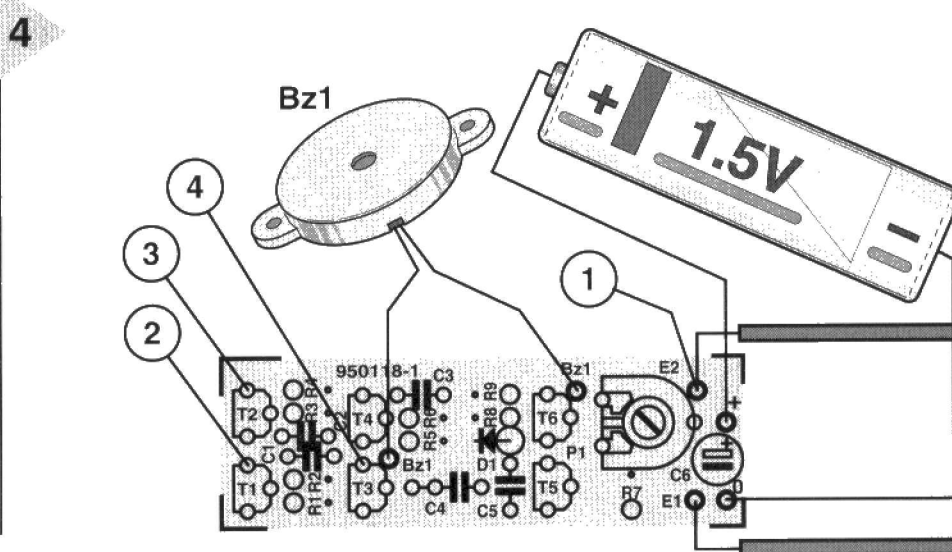

Fig. 4. Various test points on the pcb. See text for values at these points.
Insert an HP7 battery into the holder. Use a multimeter, set to the 2 V d.c. range, and check that the voltages at the test points indicated in Fig. 4 (with respect to earth, that is, the -ve terminal of the battery) are: ①: battery voltage, U_b ; ②, ③, ④: